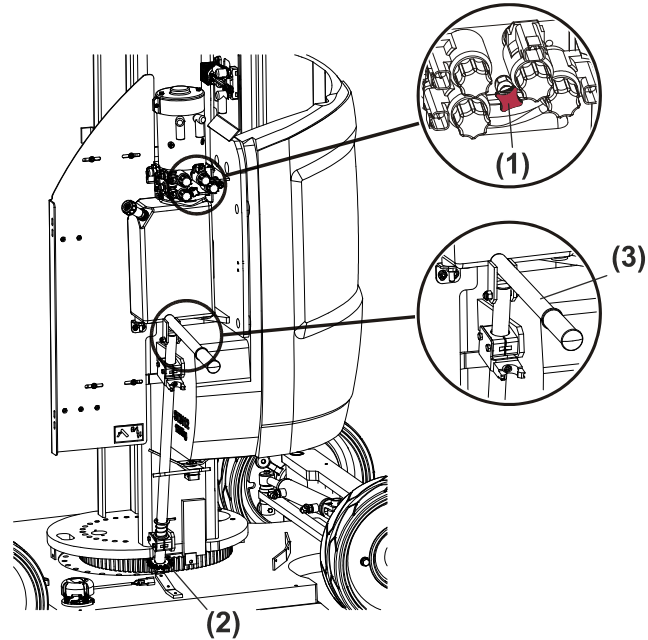

Figure 3-12. Manual Swinging Operating Devices - 10E
- a **rotary valve (1)** located on the pump/motor control valves assembly to release the swinging motor (Refer to Figure 3-12.).
- a **pinion (2)**, located below the pump/motor control valves compartment, that can be operated using the **folding lever (3)**.